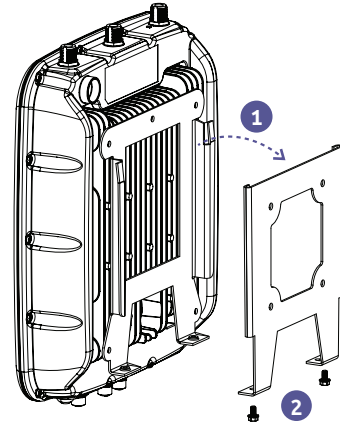

Fig 3. Installing unit to wall piece
- 4.** Hang the unit assembly on the wall piece of the bracket by matching up the bracket side flanges and sliding the unit assembly down onto the mounted wall piece until it rests on the locking flanges. Insert two M8 screws into the locking flanges at the bottom to fasten the two pieces of the mounting bracket together **(Fig. 3)**.